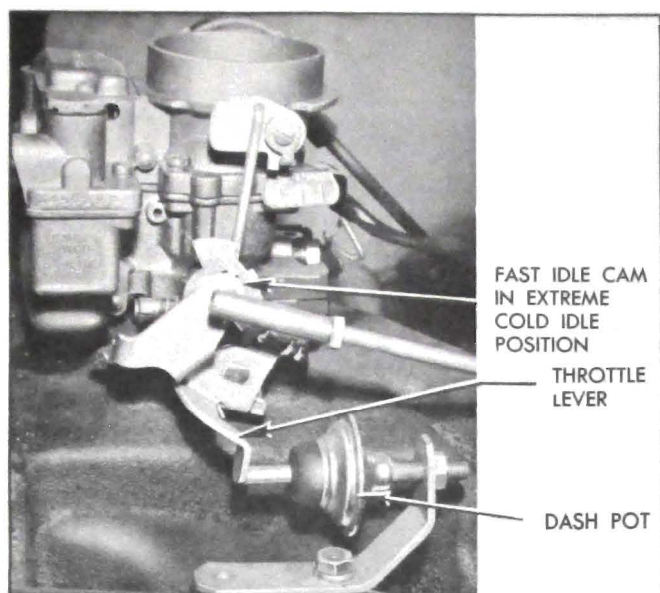

Figure 3-9—Dash Pot Adjustment
1. Open throttle to clear fast idle cam, rotate cam to extreme fast idle position, and allow throttle to close against fast idle cam. See figure 3-9.